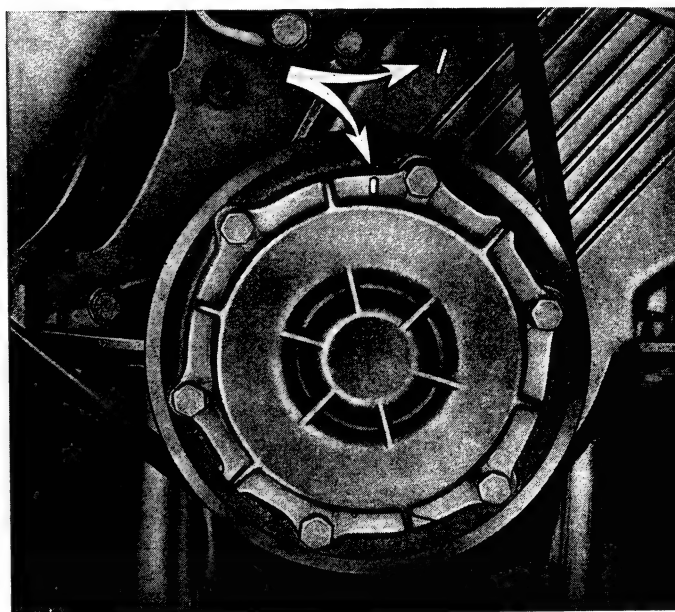

Fig. 211. - Timing ignition.
- 1500: 1/2" (13 mm) approx. ahead of the mark embossed on the timing gear cover (fig. 211);